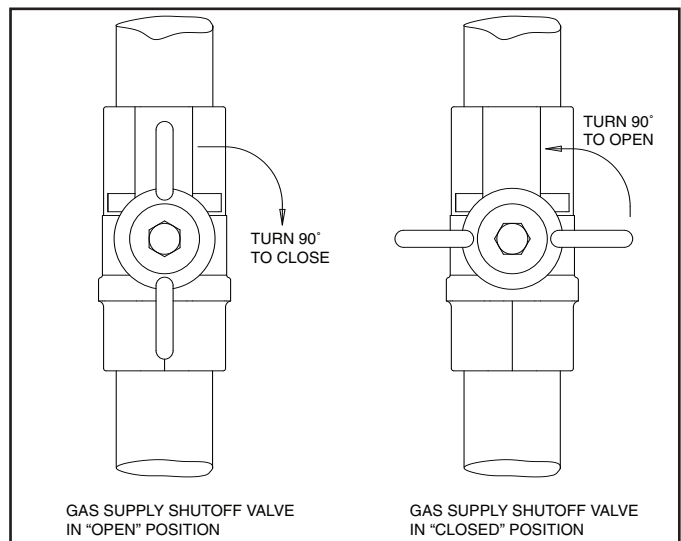

Figure 8.
5. Open the gas supply shut off valve, by turning the handle to be parallel to the gas piping. (See Figure 8).
6. Wait five (5) minutes (longer for propane) to clear out any gas, then smell for gas, including near the floor. If you then smell gas, STOP! Follow "B" in the safety information above on this page. If you don't smell gas, go to next step.
3. Close the gas supply shut off valve, by turning the handle to be perpendicular to the gas piping. (See Figure 8).